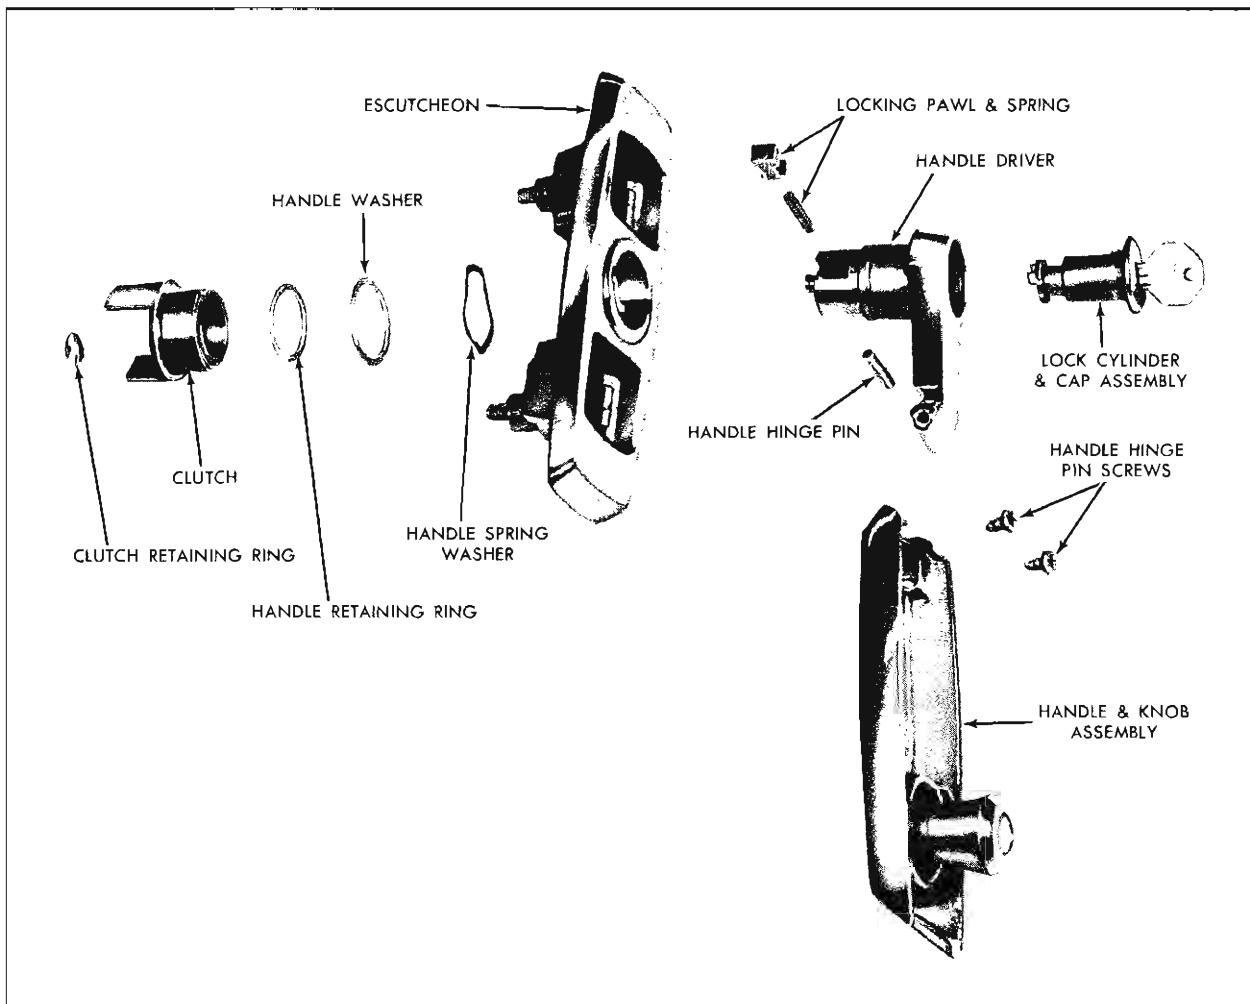

Fig. 5-14 Tail Gate Outside Handle Assembly
2. Remove clutch retaining ring and slide clutch off shaft of handle driver (see Fig. 5-14).
3. Using a snap ring removal tool, remove retaining ring securing handle assembly (see Fig. 5-14), remove washer and spring washer from shaft of handle driver and remove handle assembly from escutcheon.
4. To remove handle and knob assembly, remove handle hinge pin screws (see Fig. 5-14) and remove handle and knob assembly from handle driver.
3. Insert key in lock cylinder and turn key to lock position. Depress locking pawl (see Fig. 5-14), turn key (lock cylinder) approximately $\frac{1}{4}$ turn counter-clockwise and remove lock cylinder assembly, locking pawl and locking pawl spring from handle driver.